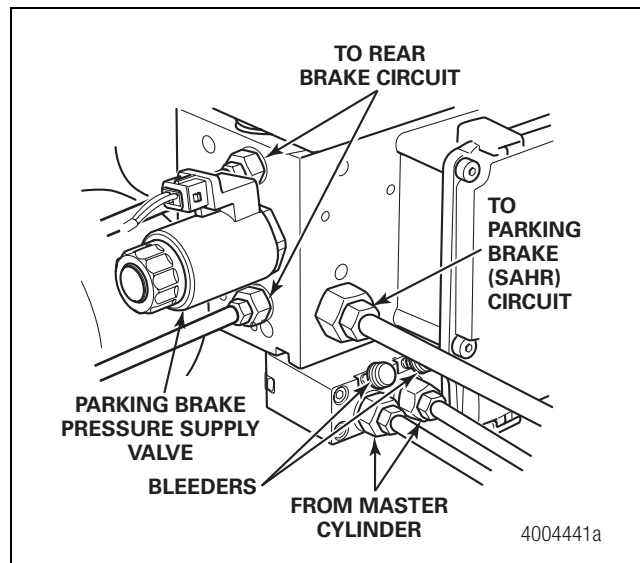
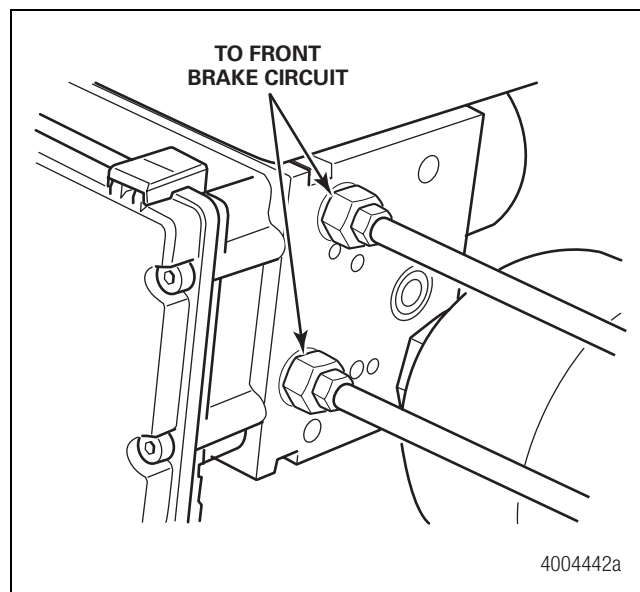

Figure 13
Figure 14
5. Thoroughly clean the area around the two relay valve fittings. These attach the two brake lines from the master cylinder to the HCU. Figure 13 and Figure 14.
1. Thoroughly clean the area around the five remaining brake line fittings before beginning the removal procedure. Figure 13 and Figure 14.
2. Connect the seven brake lines to the new HCU. Remove the protective cover before attaching the line. Check the line markers to ensure correct installation on the HCU. Figure 13 and Figure 14.